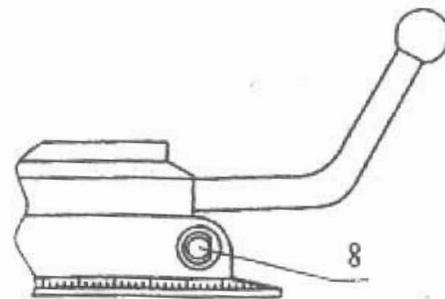

Fig. 4-3
- Turn the handle 8 to the position indicated as fig.4-3.